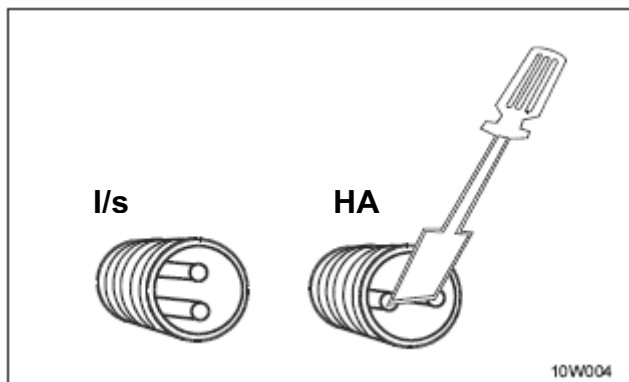

Fig. 7.1
- ☐ Bridge pin on connecting sleeve with a small screwdriver (see Fig. 7.1).